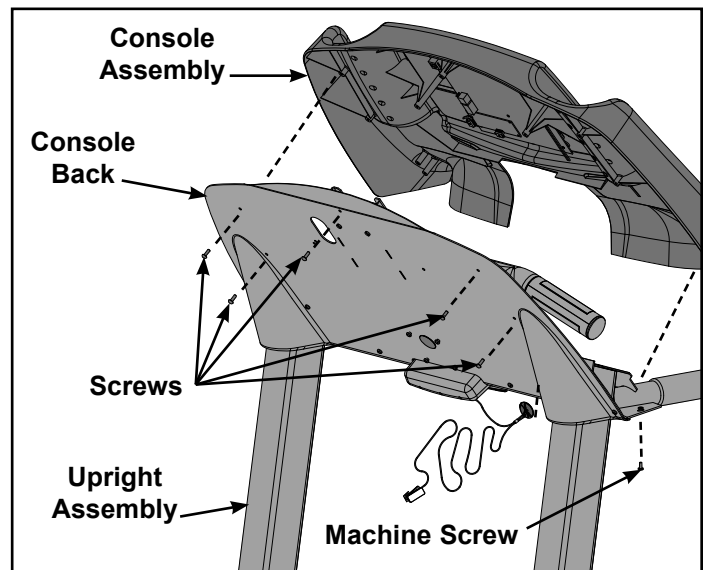

Figure 25
- B. Using a Phillips screwdriver, remove the two machine screws securing the console assembly to the upright assembly. See Figure 25. **NOTE:** Screws are different sizes. Make note of screw location during removal.
- C. Using a Phillips screwdriver remove the seven screws that hold the console assembly to the console back. See Figure 25.